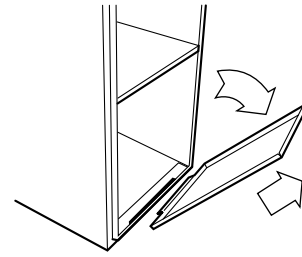

Fig. 20 - Removing Blower Access Panel
- (2.) Remove blower access panel. (See Fig. 20.)